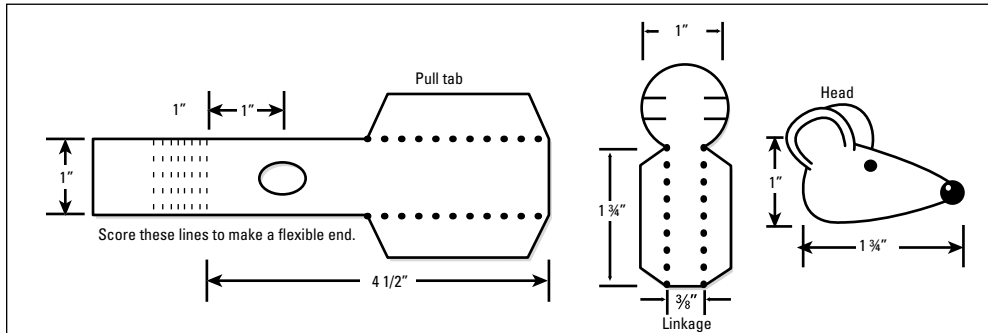

Figure 8-13:
- Copy the remaining parts from Figure 8-13 onto thin card and color the pieces as you like.